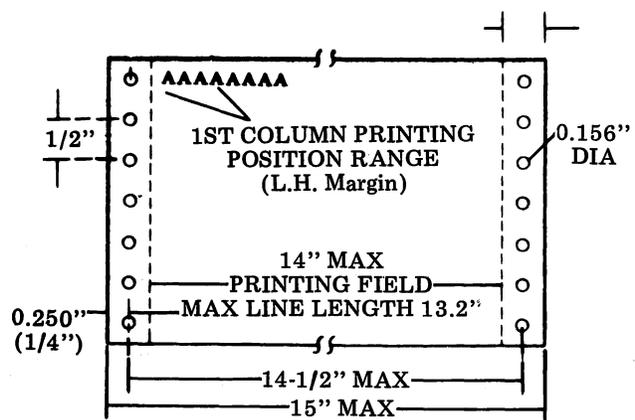

Fig. 16
card. See Fig. 16. Printers with 410071, 410072, or 410076 logic cards, feature left and right hand margin. Refer to Option 17.
2.15 The printer will accommodate sprocket feed paper with widths from 3-5/8 inches to 9 inches (80 column) and 3-5/8 inches to 14-1/2 inches (132 column). The left and right tractor assemblies are adjustable left to right to align with sprocket holes in the paper. See Fig. 16.